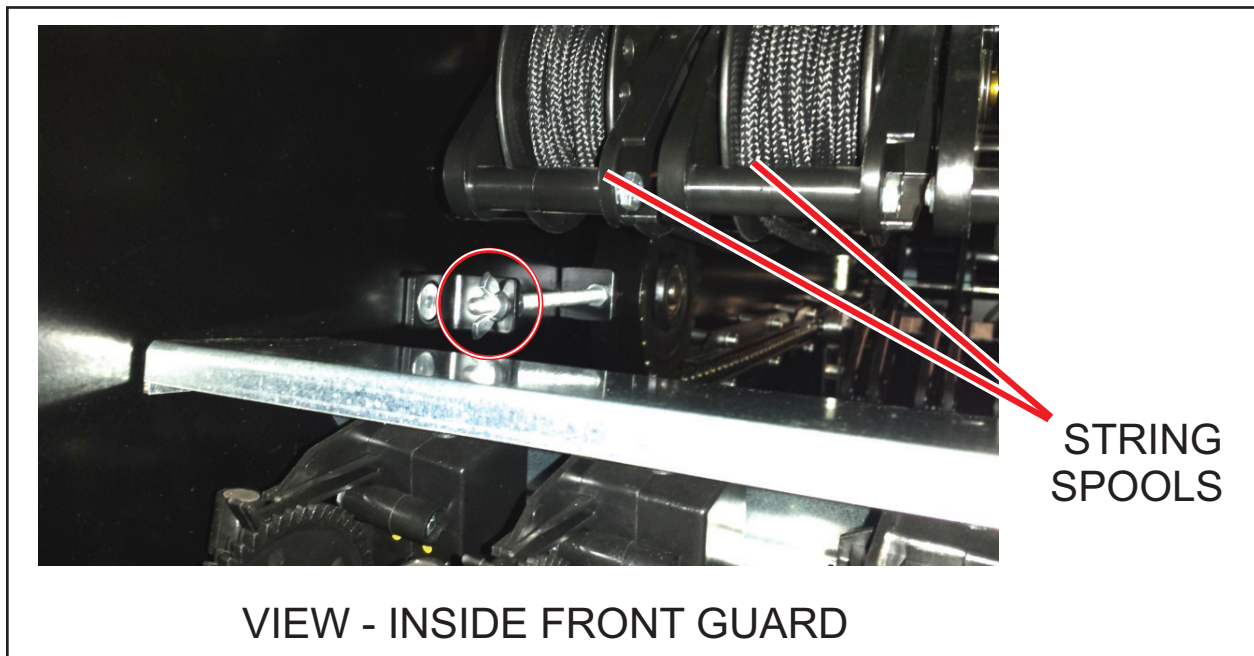
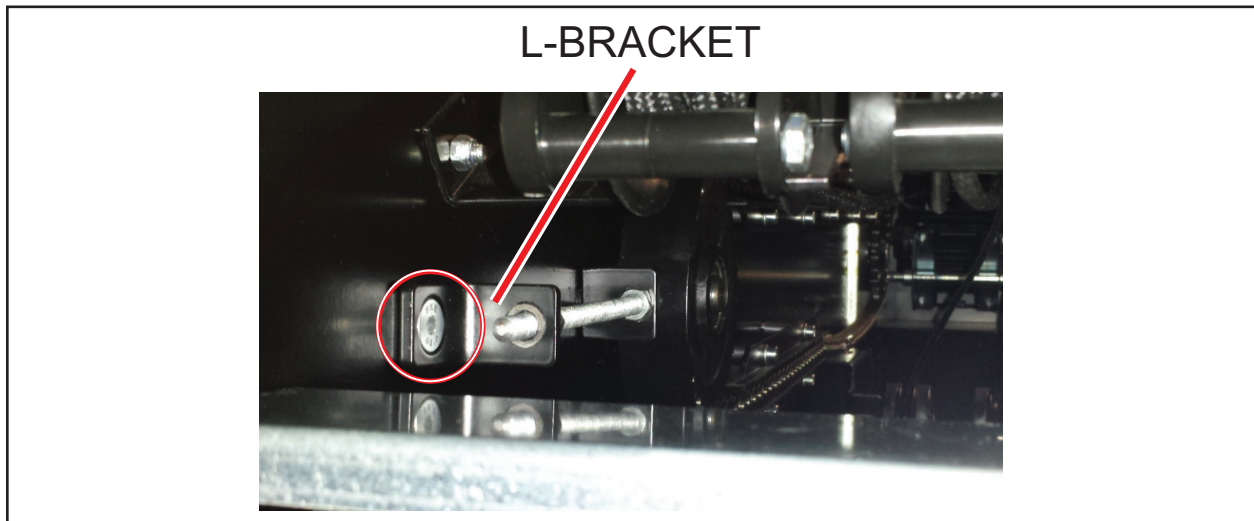

Figure 5
Figure 9
27. Reinstall the tension rod L brackets and wing nuts for both sides of the machine. Hand tighten the wing nuts. Refer to *Figure 9 and Figure 5*.